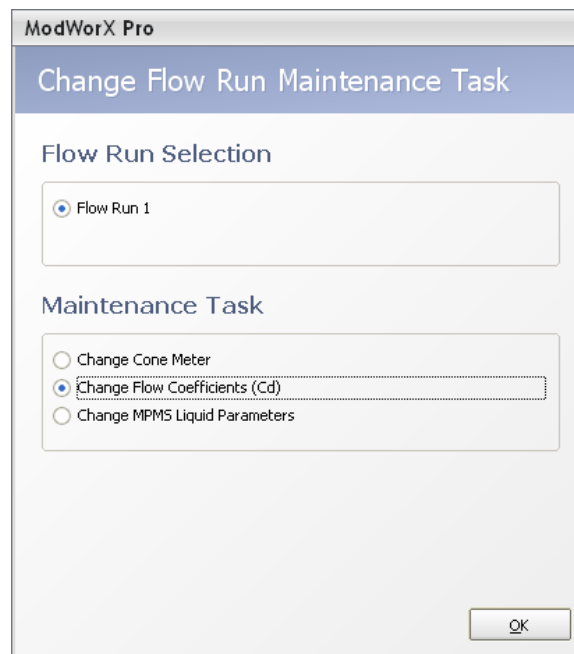

Figure 10.14
1. If Change MPMS Liquid Parameters is not displayed in the Maintenance Task field at the top of the Maintain Flow Run screen, click on **Change Task**. The Change Flow Run Maintenance Task dialog will appear (Figure 10.14).